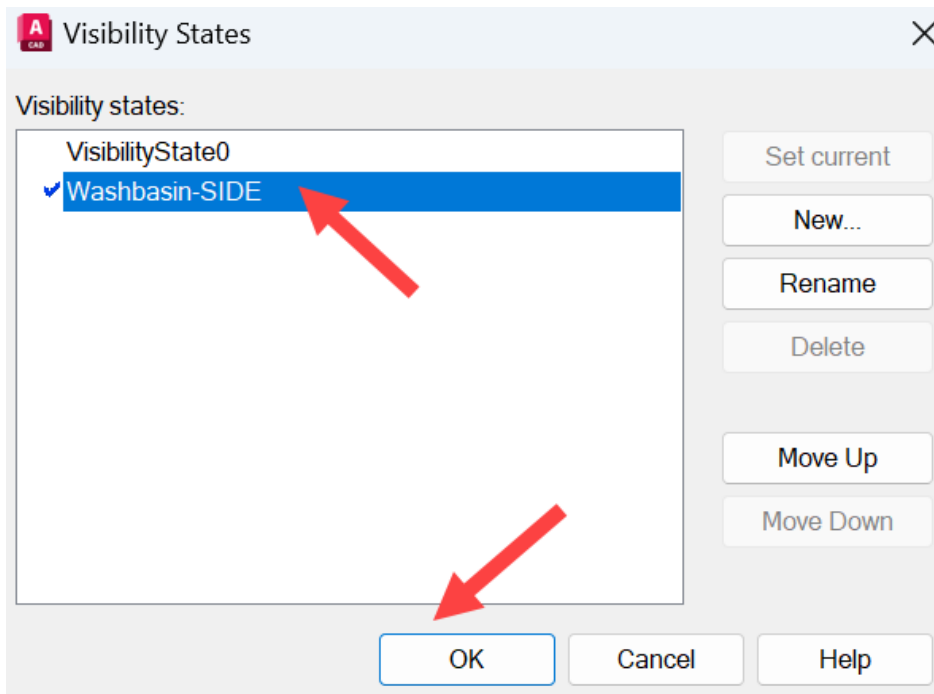

Figure 12.27: The Visibility States dialog box
10. Click on **OK**. The **Visibility States** dialog box will then be shown, as in *Figure 12.27*.